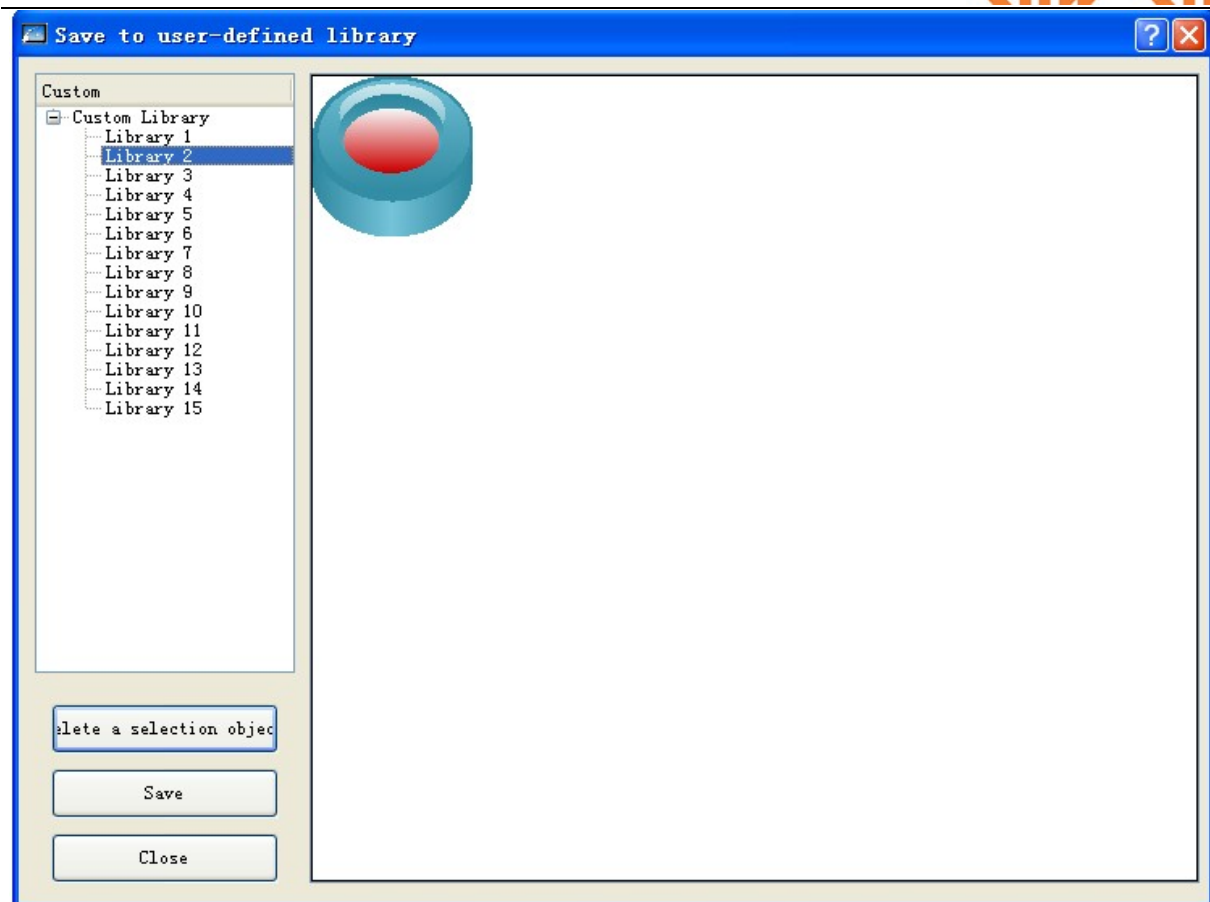

Figure 4-52: Save path selection dialog
- Click “Save to” button, select “library 2” .See Figure 4-52